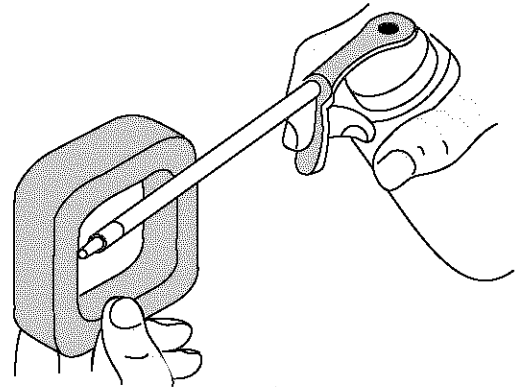

Fig. 32
4. Apply enough clean SAE 30 motor oil to lightly coat the filter (Fig. 32).